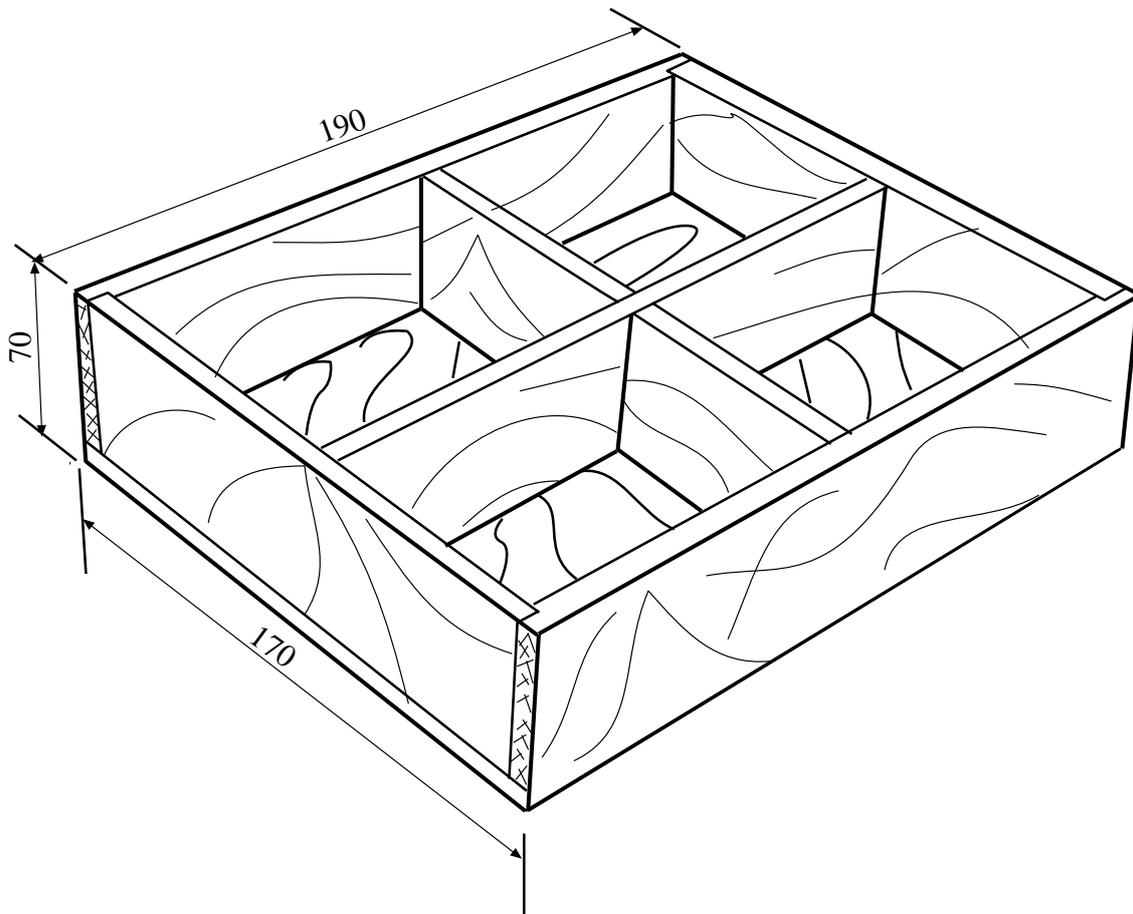

Figure 4
- 13 (a) A client requires a simple wooden jewellery box shown in **Figure 4**.